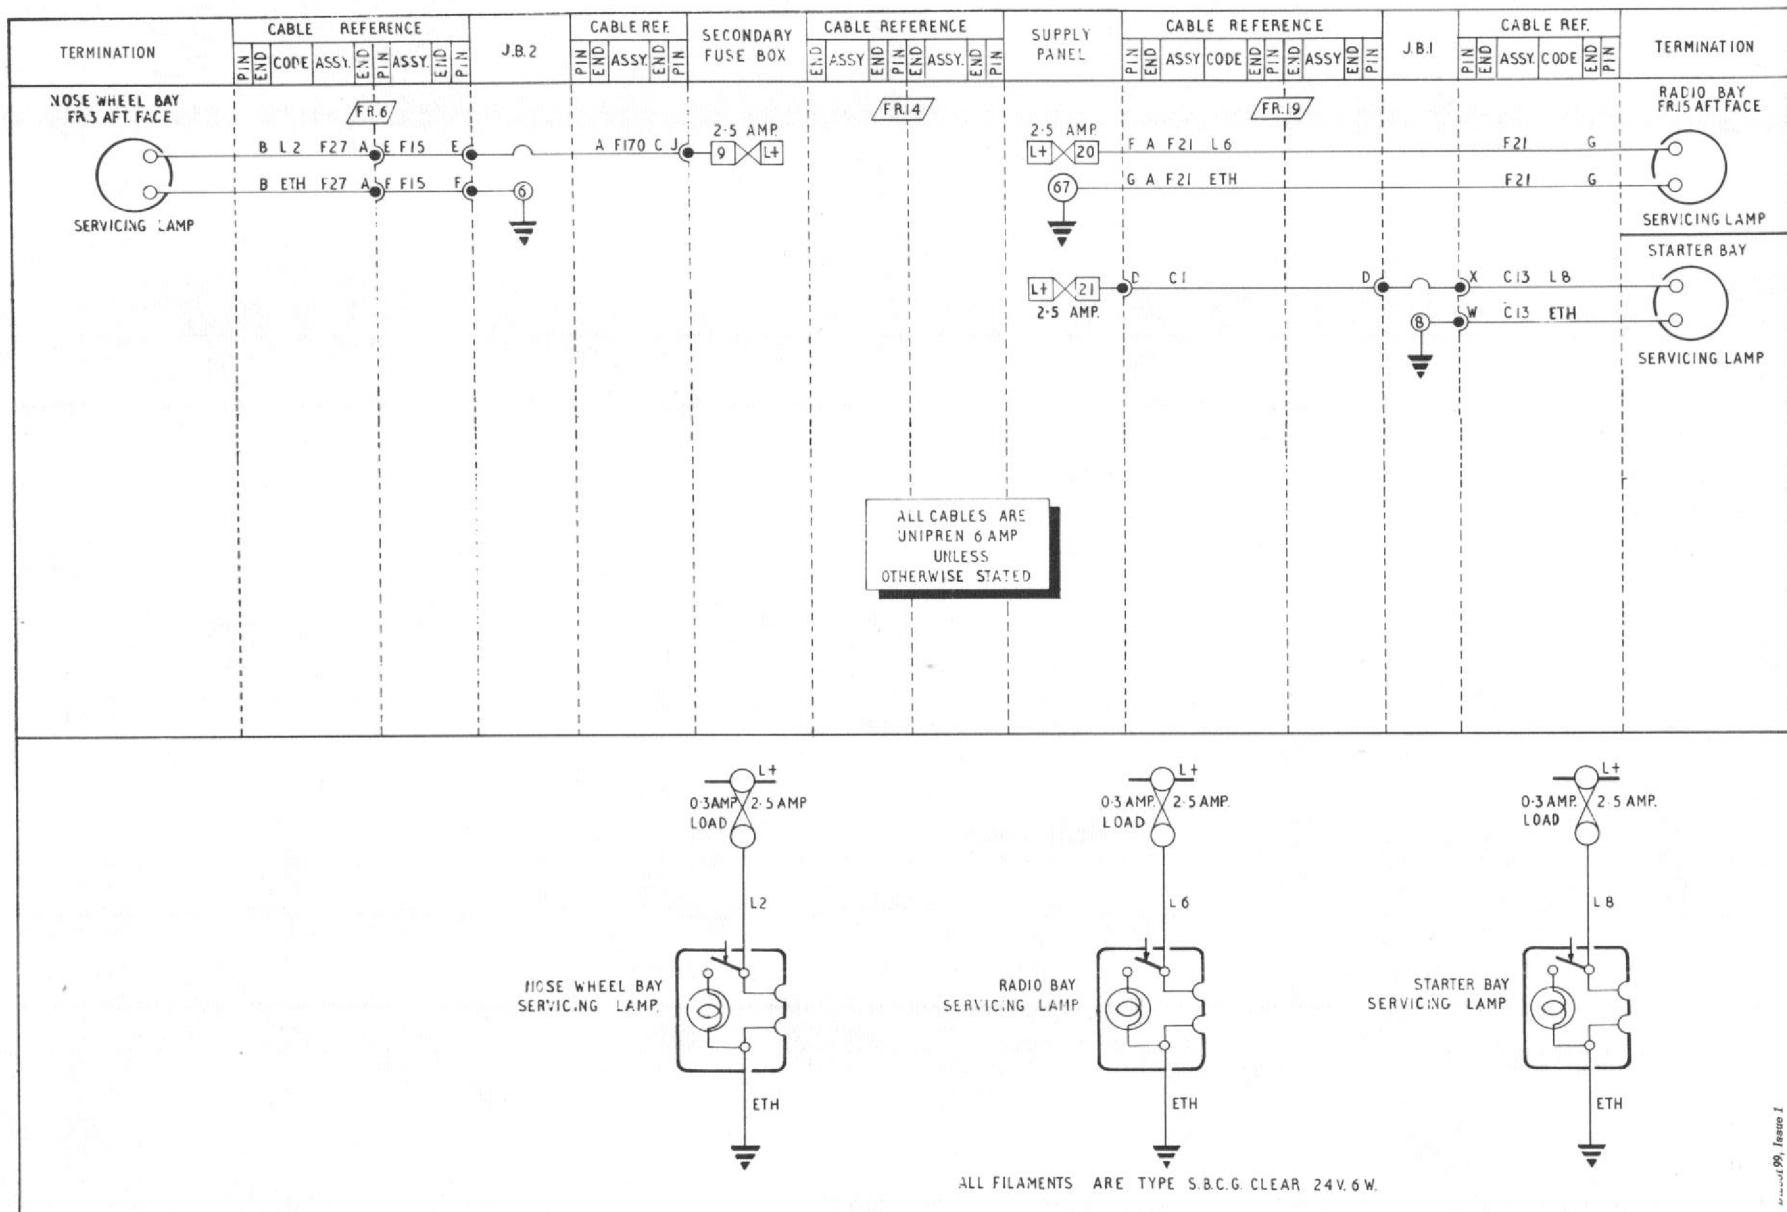

Fig.1. Servicing lamps (routeing and theoretical)
3. The operation of the circuit will be obvious when reference is made to the wiring diagram given in fig.1.